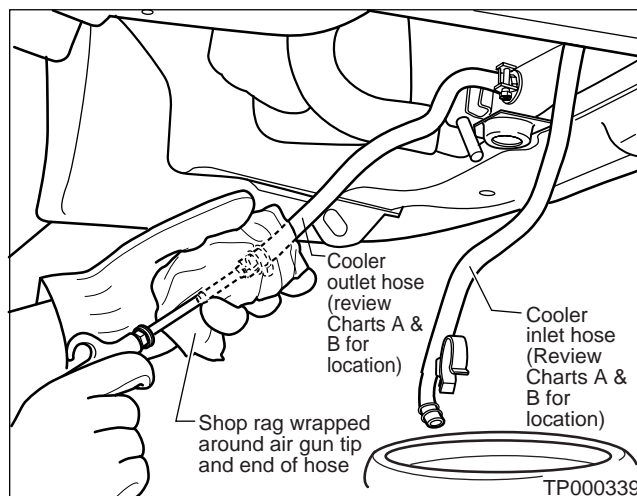

Figure 5
7. Insert the tip of an air gun into the end of the Cooler Outlet hose (see Figure 5).
8. Wrap a shop rag around the air gun tip and end of the Cooler Outlet hose (see Figure 5).